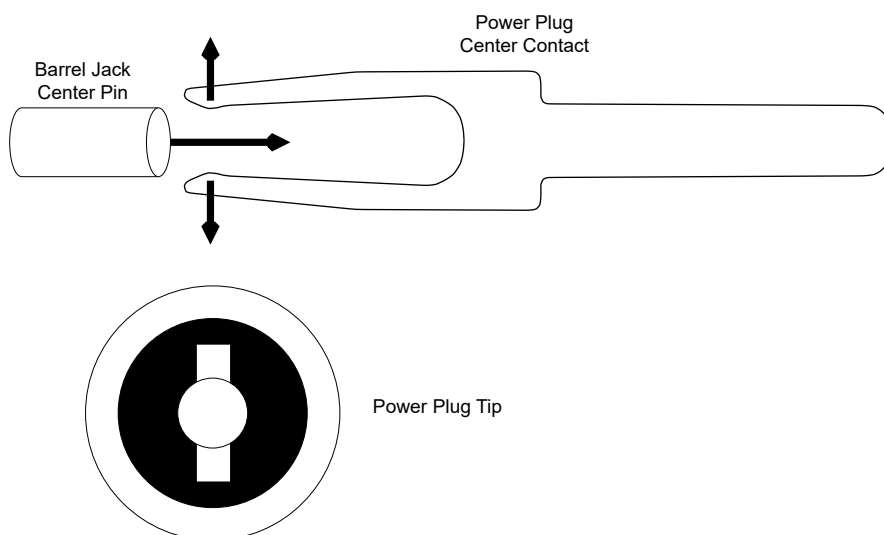

Figure 2-3. Illustration of Recommended Power Plug with "Tuning Fork" Center Contact
- Recommended mating connector - **Same Sky (Formerly CUI Devices) PP3-002BH** - power plug with "tuning fork" style center contact. Refer to Figure 2-3. The two prongs of the "tuning fork" center contact flex to maintain contact with the center pin of the barrel jack, avoiding the possibility of intermittent connection.)